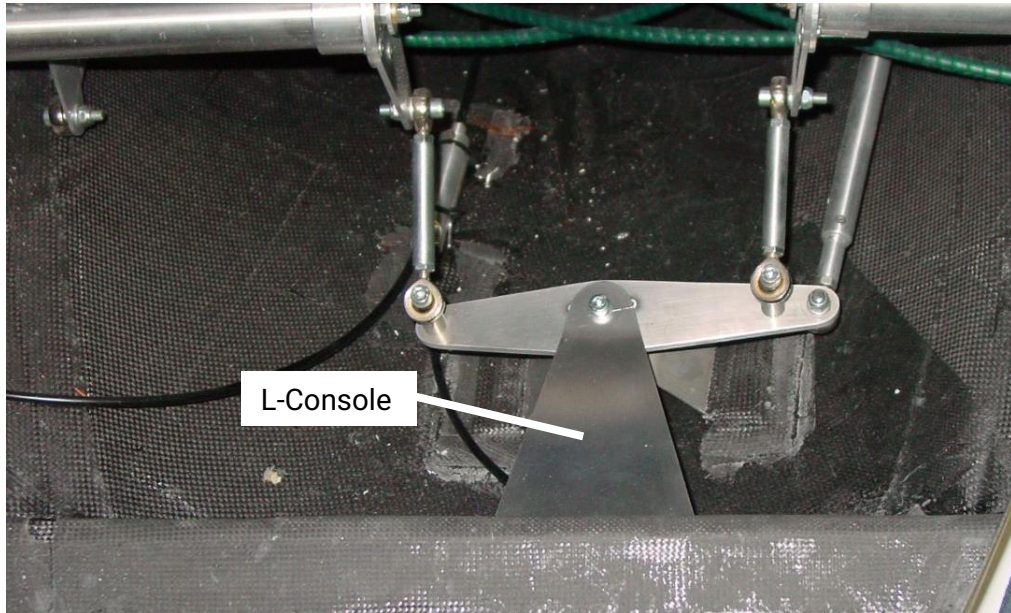

Figure 2: Correct installation of this bellcrank
- 2) If your bellcrank is attached as on the figure 2 (below) – no further action is required.
- 3) If your bellcrank is not installed as shown on the figure 2, continue with following steps: